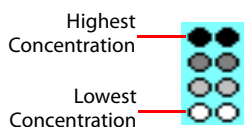

Figure 10-13: Concentration Representation in Dilution Series:
3. Select a series operator, enter an operand, and select the appropriate dilution orientation (see Figure 10-13).